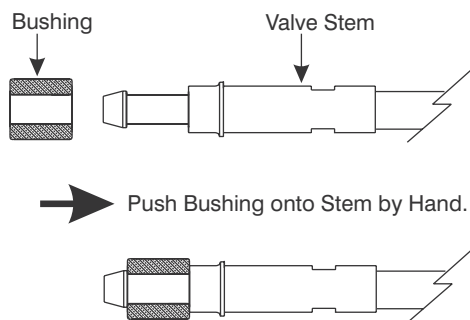

Figure 9-12. Install Bushing on Valve Stem.
3. By hand, press the Bushing over the knob at the non-threaded end of the Valve Stem. Slide the Bushing into place between the knob and bushing seat as shown in Figure 9-12.